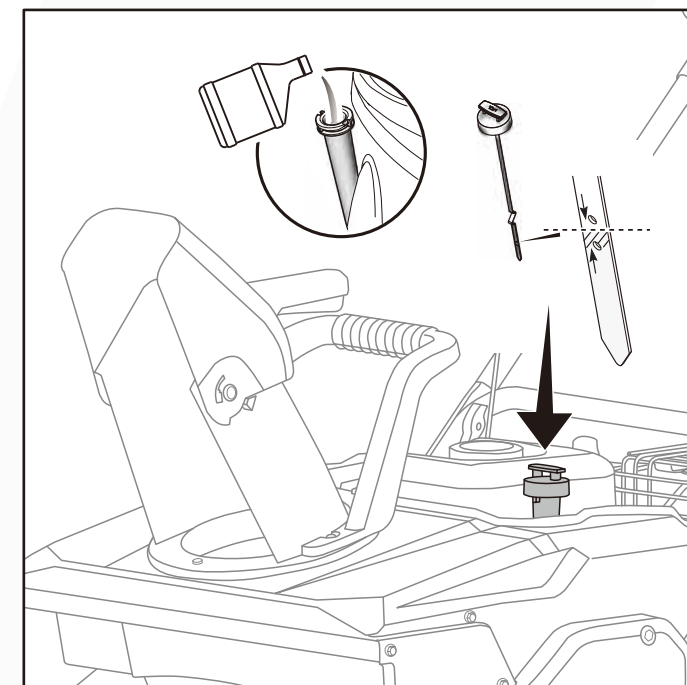

Fig.5
2. Remove the engine oil dipstick and clean with a cloth. (Fig.5)